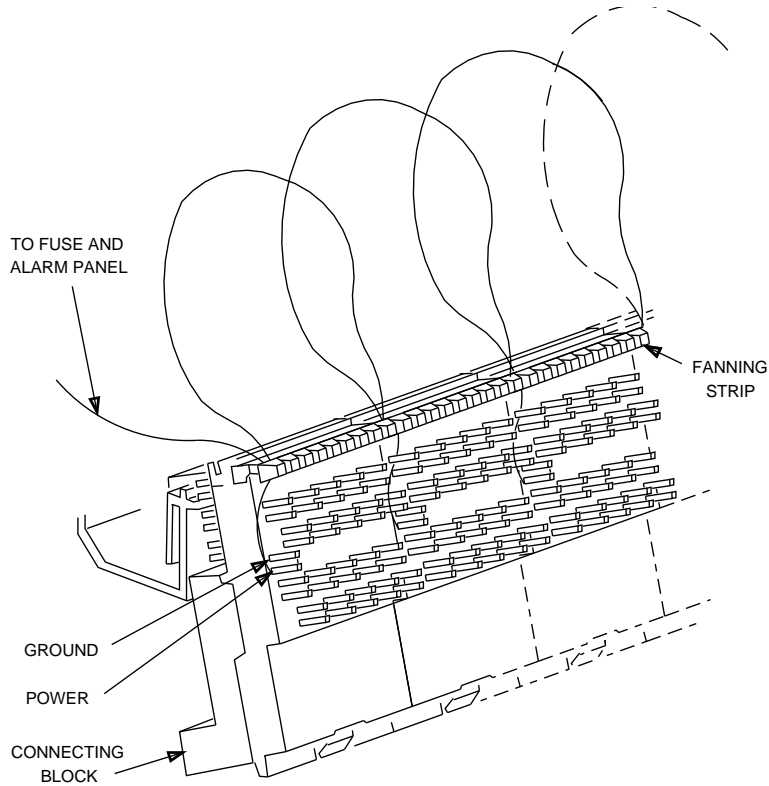

Figure 7. Install Battery and Ground Leads
1. Route ground and power leads from fuse panel to first block position and terminate on pins labeled GRD and -48 V (see Figure 7). These pins are longer than the input and output pins to allow multiple wire-wraps. Observe the Caution on the previous page.